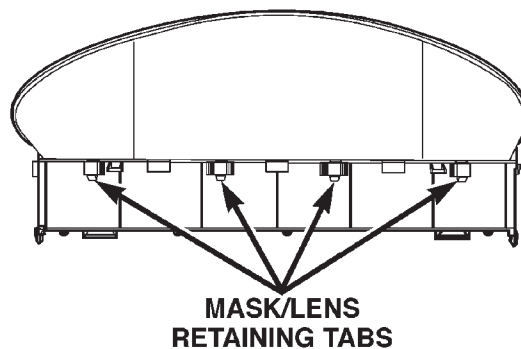

Fig. 14 Instrument Cluster Mask/Lens Retaining Tabs – Top
- (4) Unsnap seven retaining tabs holding mask/lens to cluster housing (Fig. 14).
- (5) Separate mask/lens from instrument cluster and remove.